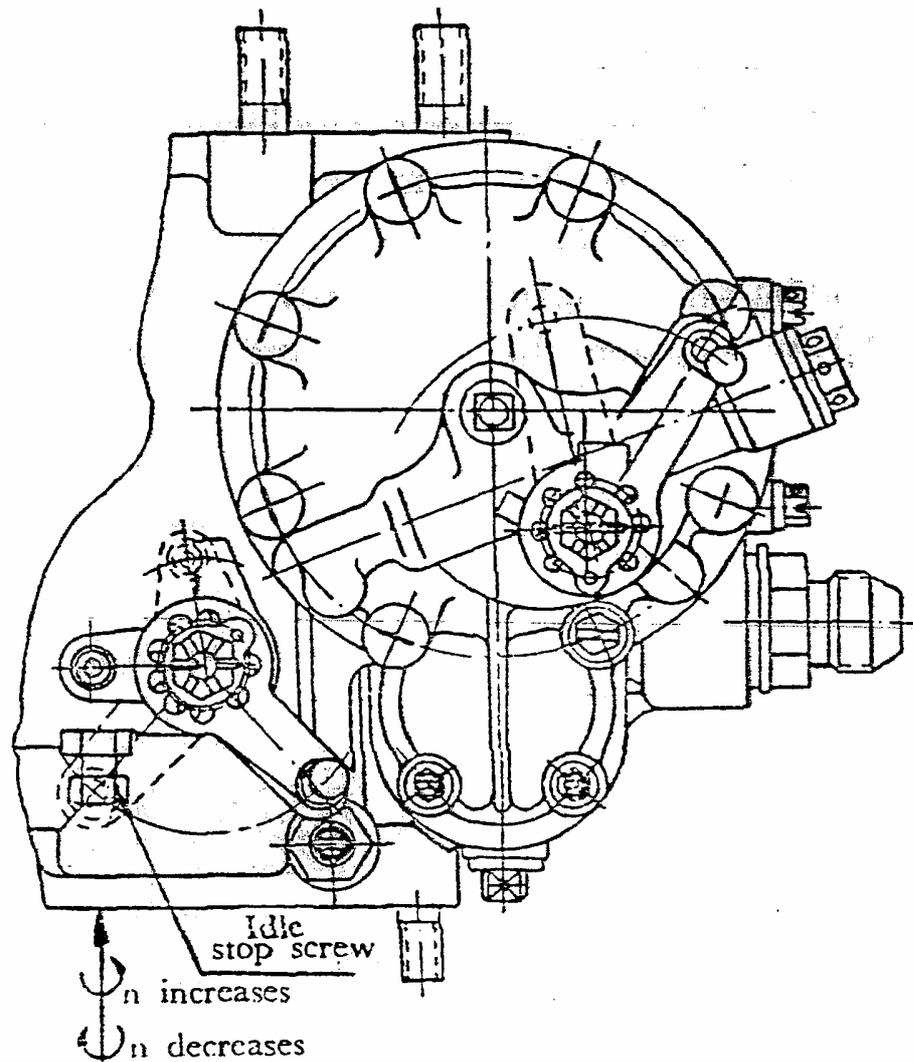

Fig. 10 Adjustment of idle rotating speed
b. Change throttle opening with idle stop screw in order to adjust idle rotating speed (Fig. 10).